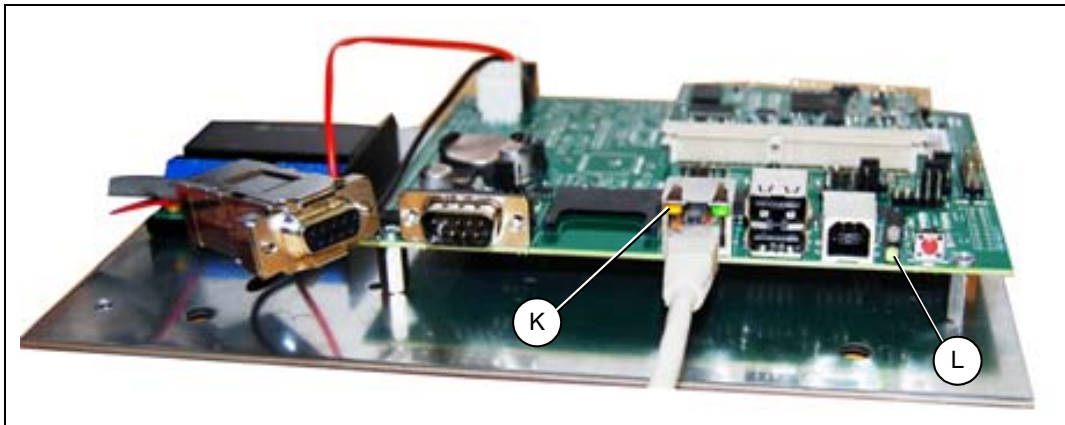

Figure 5I Power and Status Lights for WatchDog System
10. The green power light ON the WatchDog board should illuminate upon application of power. If not re-check power supply connections. After 3 minutes, the red system light should illuminate, indicating the WatchDog System is ready. (See Figure 5I.)